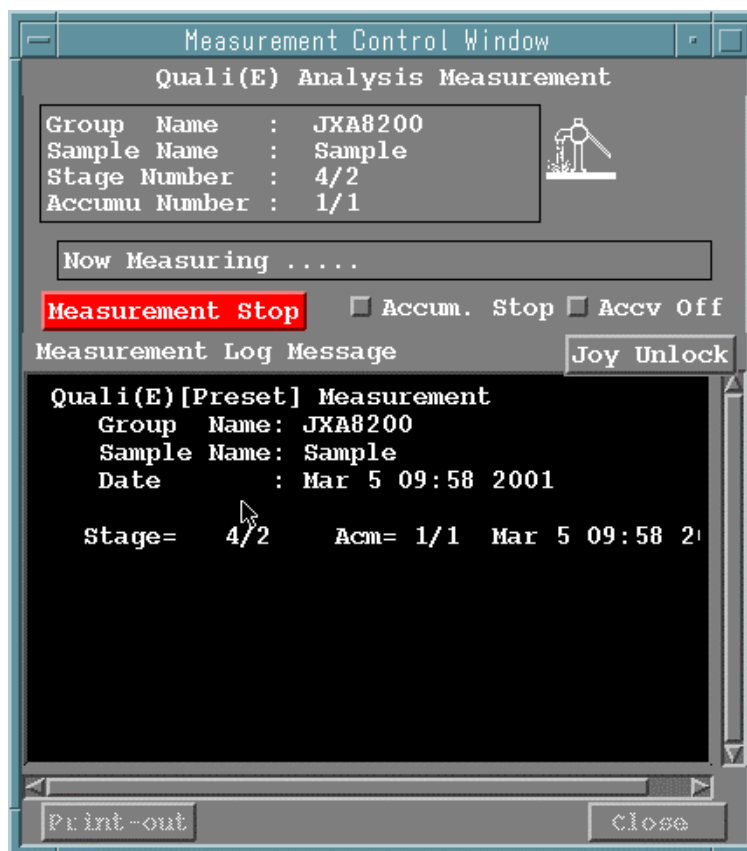

Fig. 16 Quali (E) Analysis Measurement window
4.2.3 Quali (E) Analysis Measurement window
During measurement, the Quali (E) Analysis Measurement window appears as shown in Fig. 16, allowing you to interrupt measurement (**Measurement Stop**) and stop accumulation (**Accum. Stop**). If you have selected **Accv off**, the accelerating voltage will be turned off automatically after measurement.